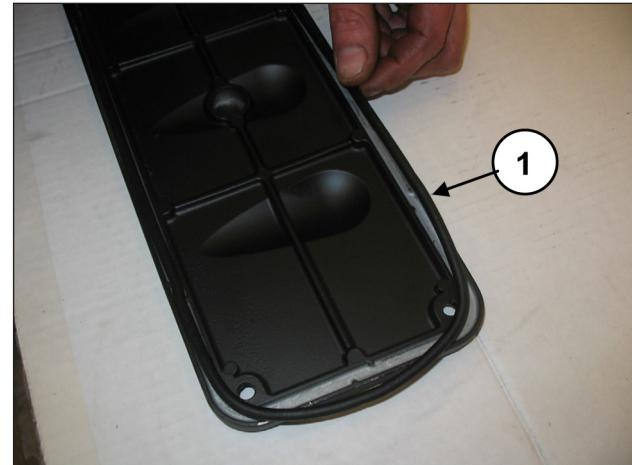
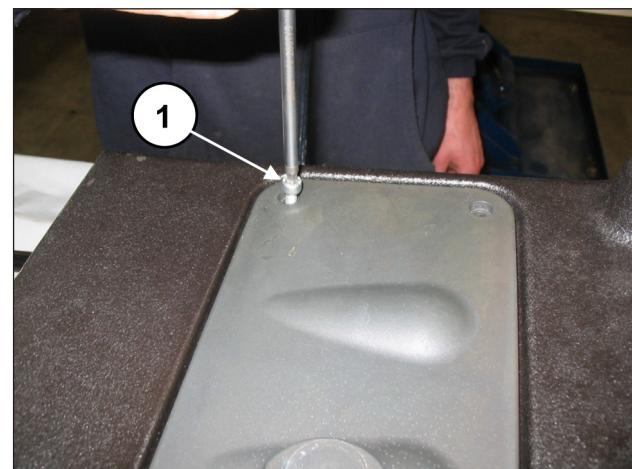

Fig. 99
Fig. 100
On the two inspection covers insert the O-ring (pos. ①, Fig. 99) and assemble the covers with the use of 4+4 M6x14 screws (pos. ①, Fig. 100).